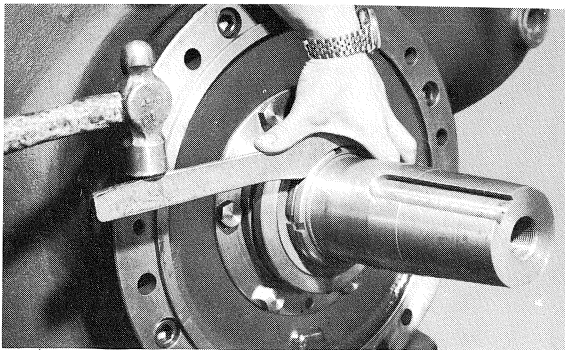

Fig. 50 Unscrewing locknut
- a) When the shaft seal mechanism is as shown in Figs. 47A & 47B, remove the locknuts (40), using extreme care not to scratch the bearing surfaces of the shaft seal collar (33) (ref. to Figs. 50).